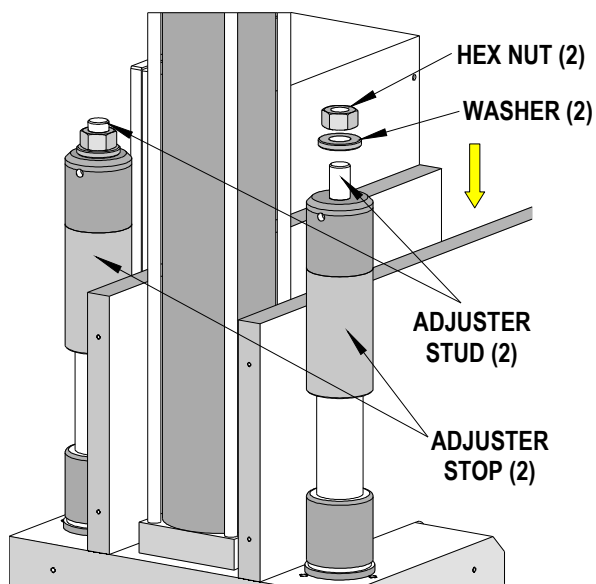
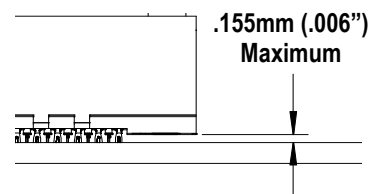

Figure 2-4
Figure 2-9
5. Screw the two (2) adjuster stops onto the two adjuster studs as shown in Figure 2-4.
6. Place the last two (2) washers and hex nuts on the adjuster studs. See Figure 2-4.
The ram down stop on the flat platen tooling must be set so that when the connector is pressed into the printed circuit board it is flush to 0.15mm (.006 in.) above the board .See Figure 2-9.
1. Loosen the two (2) hex nuts on top the adjusting studs. See Figure 2-4.
2. Turn the stops clockwise (CW) to increase the height at which the ram stops or counterclockwise to decrease it.
3. Following the procedure described in Section 2.3 (Operation), press a connector into a printed circuit board (preferably scrap pieces). Adjust as necessary to meet the proper requirement described in Figure 2-9.